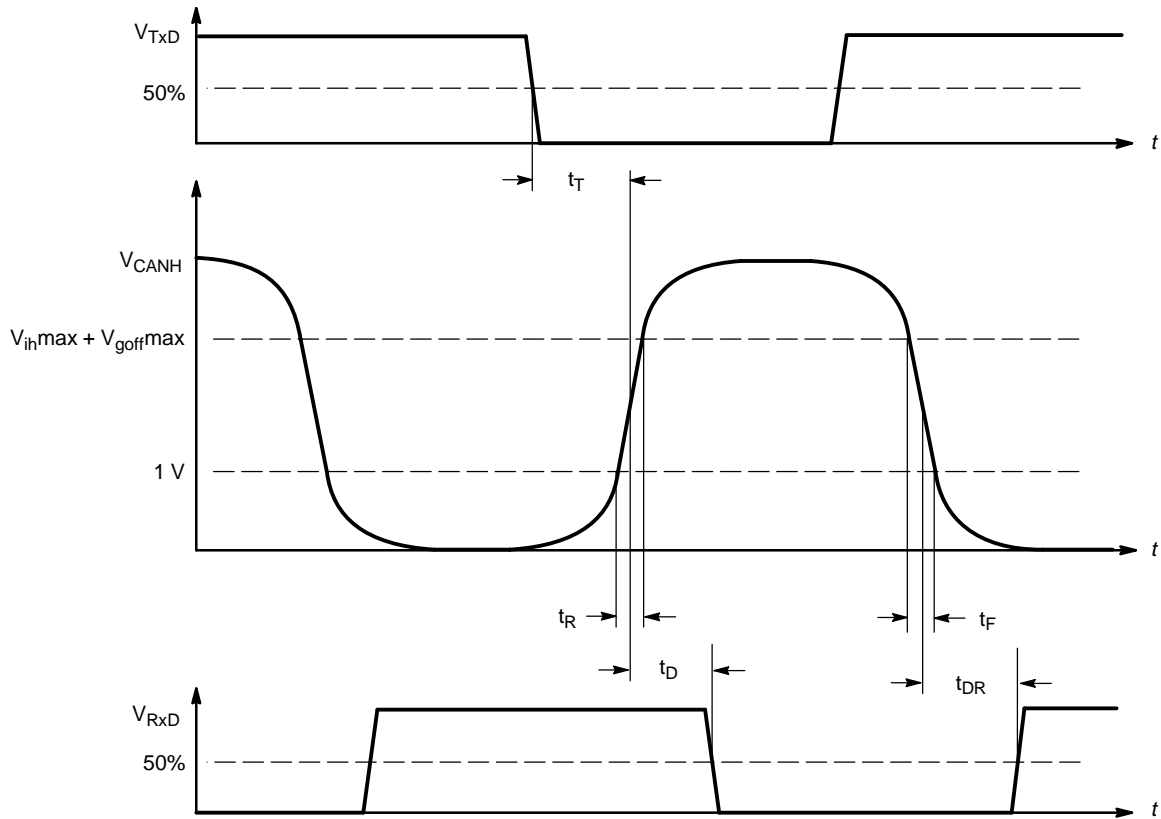

Figure 2. Input/Output Timing
**ELECTRICAL CHARACTERISTICS** ( $5.0\text{ V} \leq V_{\text{BAT}} \leq 27\text{ V}$ ,  $-40^\circ\text{C} \leq T_A \leq 125^\circ\text{C}$ , unless otherwise specified.)**AC CHARACTERISTICS** (See Figures 2, 3, and 4)